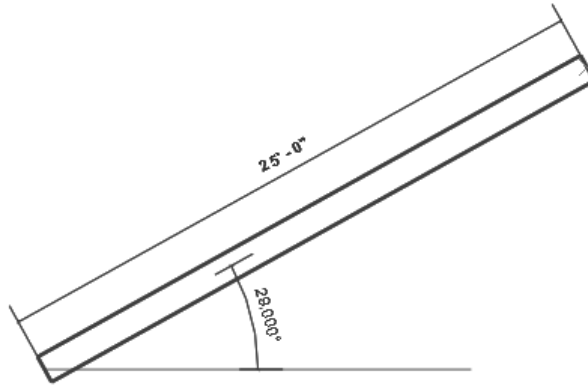

Figure 3-27 The angle and temporary dimensions are displayed on the wall being sketched
- Right click in the drawing area; a shortcut menu is displayed. Choose the **Zoom In Region** option from the shortcut menu and zoom into the area to get a closer view of the sketched wall segment, as shown in Figure 3-27 (for zooming techniques, see Chapter 2- Getting Started with Revit Architecture).